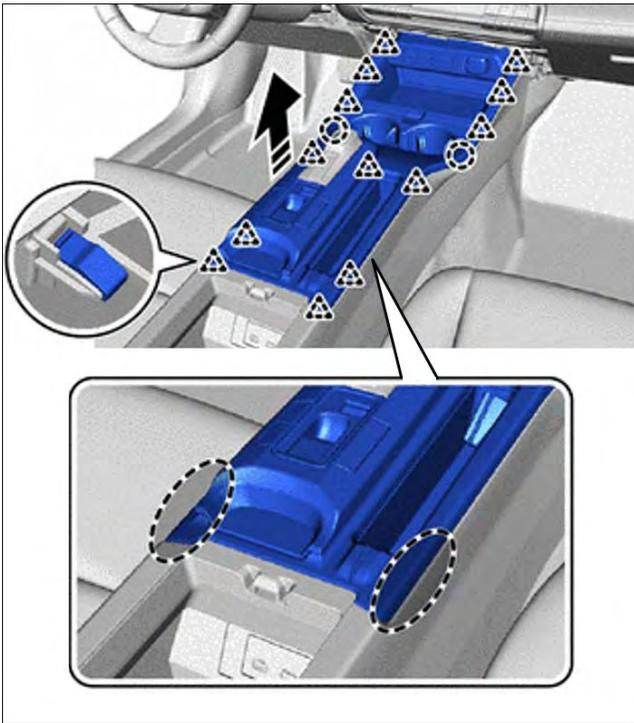

Figure 17
- (b) Disengage the 13 clips and pull up the upper console panel sub-assembly, as shown in Figure 17.